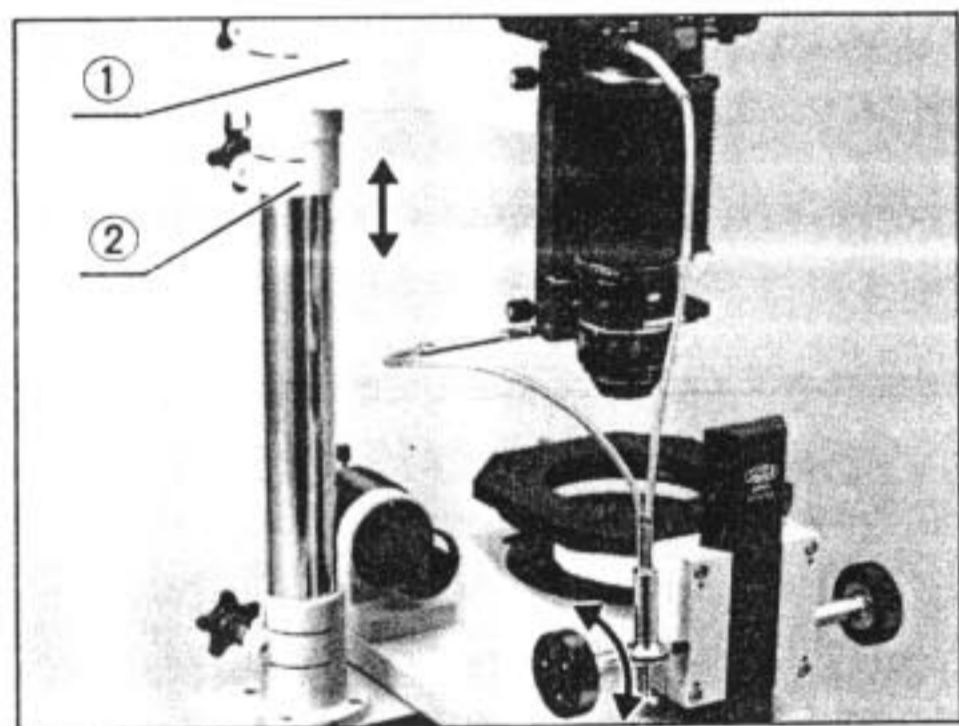

Fig. 17
1) Coarse focus adjustment by the vertical movements of the stage and the arm ① upon which the camera back is mounted. (Fig. 17)